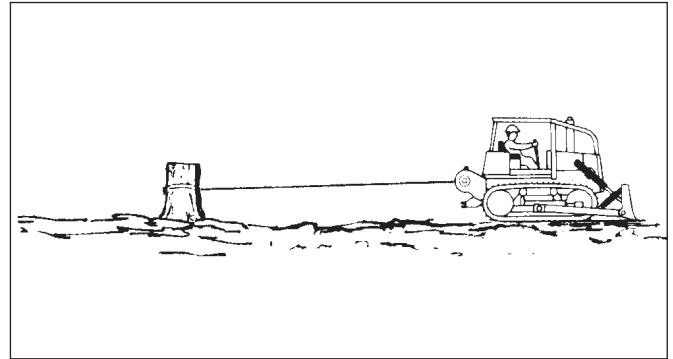

Figure 24 Moving a Disabled Vehicle (Step A)
**A.** A dozer or skidder often travels in areas where traction conditions are bad. A vehicle equipped with a winch can be used to remove itself from mud or other areas where it cannot move using only the drive wheels or tracks. See Figure 24. Use the following procedure: